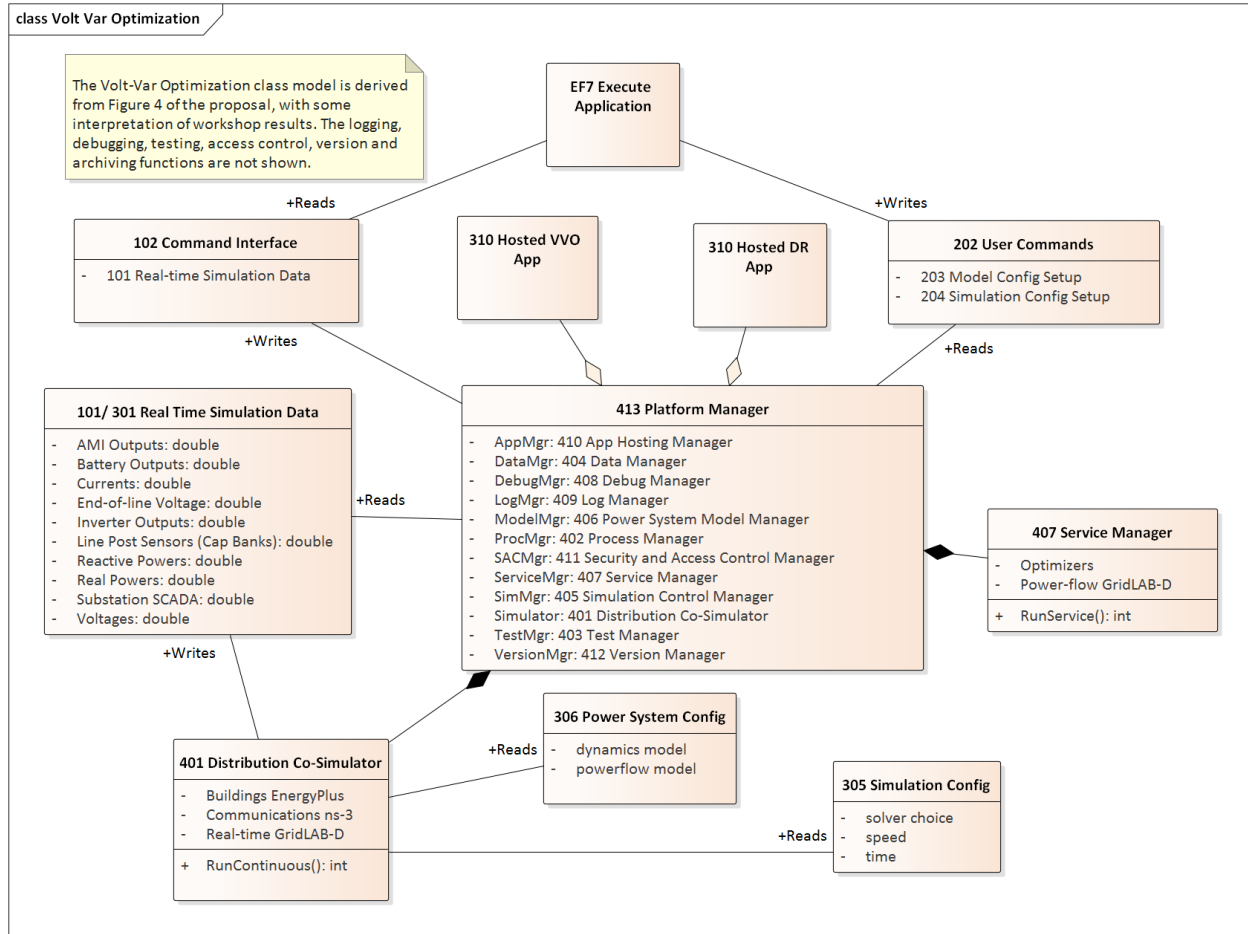
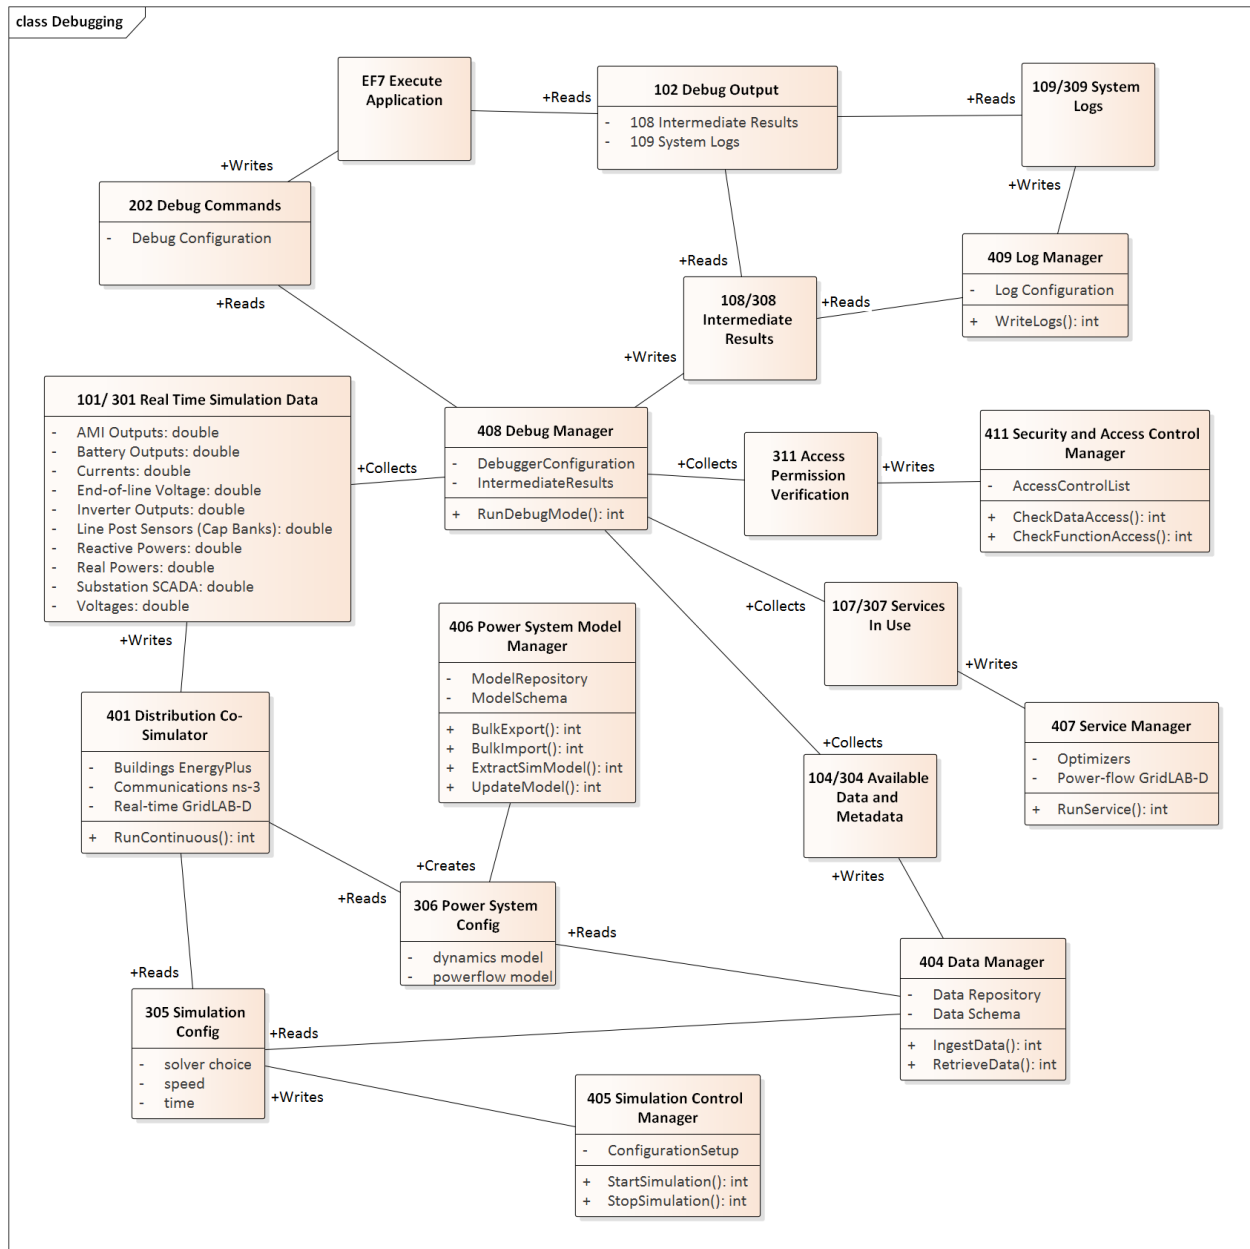

Figure 2: Executing an application
Figure 5: Debugging an application
1. Different on and off delay parameters for RegulatingControl (Figure 5)
2. Current ratings for PerLengthImpedance (Figure 2). At present, some users rely on associated WireInfo, ignoring all attributes except currentRating.
3. Transducers for RegulatingControl (Figure 5)
Figure 2 illustrates the case of a user executing an application, in the role of EF7 from the functional specification. We initially focused on volt-var optimization (VVO), and then added a more complicated demand response (DR) application that fits the same basic pattern. As a prerequisite, some entity has provided both applications to GridAPPS-D for registration and hosting, in a process detailed later. For now, we assume the application(s) have been installed and will focus first on running VVO.
When we considered adding the second and more complicated application, 310 DR, the structure of Figure 2 didn’t change very much. The open-headed diamond symbols indicate that GridAPPS-D can host several applications, which is UML aggregation. These applications may interact via the GridAPPS-D command interface, if the applications and their command sets have been designed for it. For example, the DR application may use VVO to check and mitigate voltage limits.
usage in Figure 2, this example shows additional control and output for testing. The test commands include 203 and 204, as in Figure 2, but they also include:
Figure 5 shows some of the internal 413 Platform Manager detail when a user, EF7, runs an application in debugging mode. Compared to Figure 2, there is much more internal output. The 212 Debug Configuration will include such things as breakpoints, watch variables, and logging requests. When run in debug mode, the 408 Debug Manager will collect the internal inputs and intermediate results from a variety of GridAPPS-D modules, including the simulator, services in use, model data, and access violations. The 404 Data Manager mediates most of this data collection (and with a change to the specification it could also mediate 101/301). The 408 Debug Manager combines this into 108
Intermediate Results, with 109 System Logs, for output to the user via the command interface. Depending on the implementation of GridAPPS-D, interactive debugging may also be supported, but is not shown in Figure 5.